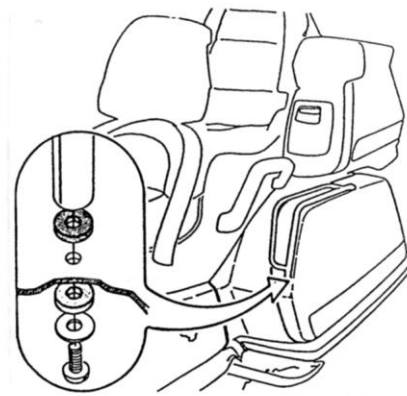

Figure 2
3. Position the left hand trim carefully on the left hand saddlebag lid as show in **Figure 2**, with the rear mount foot centered on the pencil line. When properly located, the smaller (3/8") trim tube should be directly over the crack between lid and bag. Place masking tape under the other two mount feet and then carefully draw around each foot onto the tape. Remove the lid trim from the bag.